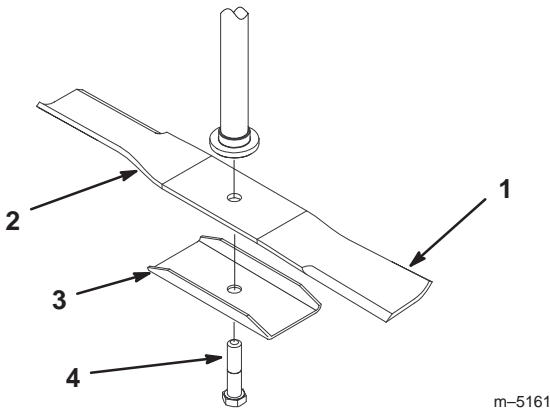
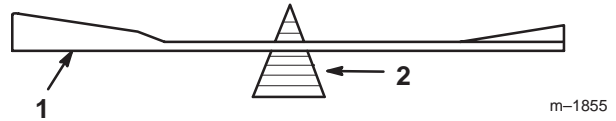

Figure 35
Figure 37
Hold the blade end using a rag or thickly-padded glove. Remove the blade bolt, stiffener, and blade from the spindle shaft (Fig. 35).
2. Check the balance of the blade by putting it on a blade balancer (Fig. 37). If the blade stays in a horizontal position, the blade is balanced and can be used. If the blade is not balanced, file some metal off the end of the sail area only (Fig. 35). Repeat this procedure until the blade is balanced.
1. Install the blade onto the spindle shaft (Fig. 35).
2. Install the stiffener and blade bolt (Fig. 35). Torque the blade bolt to 80–100 ft.-lb. (108–136 N·m).